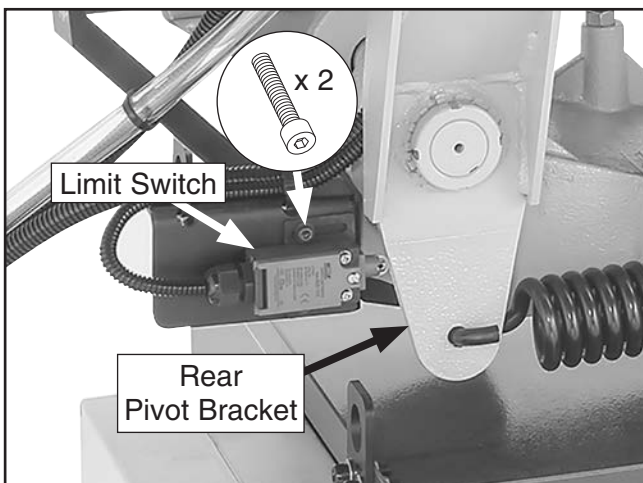

Figure 96. Location of limit switch adjustment components.
- Loosen (2) cap screws shown in **Figure 96**, then adjust limit switch until rear pivot bracket contacts limit switch.